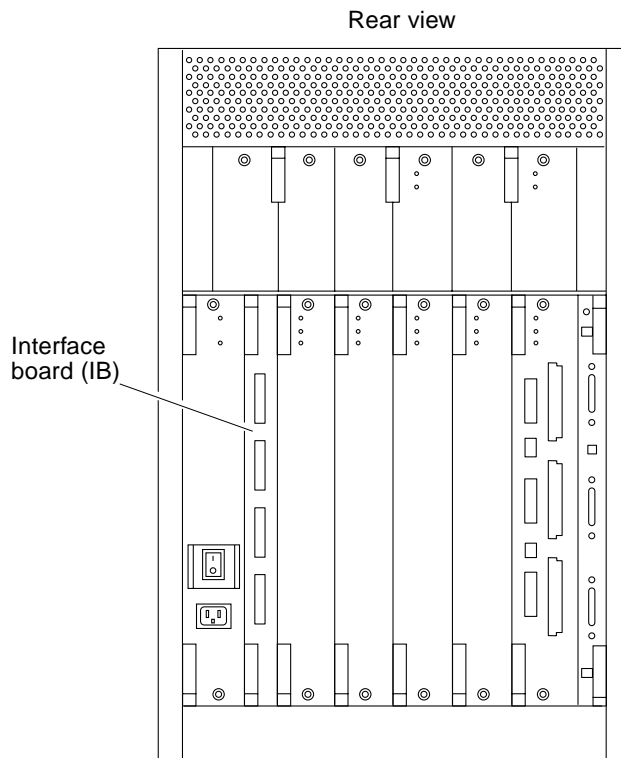

FIGURE 6-1 Interface Board Location
Each Enterprise 3500 system has a slot for one interface board (IB). The IB, which is optional, is installed in the rear of the system, adjacent to the peripheral power supply/AC (FIGURE 6-1).